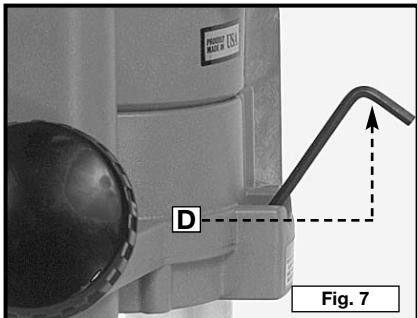

Fig. 7
2. Insert hex wrench (A) Fig. 7 to contact locking plate. Tap lightly to release and remove locking plate.